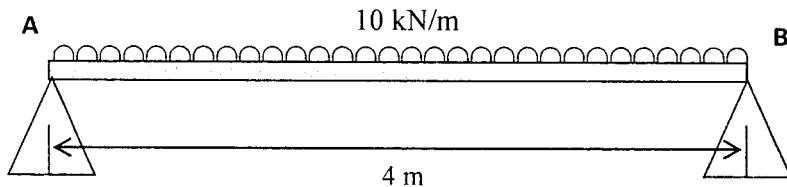

Figure 3(c)/ Rajah 3(c)
- (c) A simply support beam shown in **Figure 3(c)** is loaded with Uniformly Distributed Load. Based on the figure, calculate the slope and deflection at position 3 m from point A by using Double Integration Method.